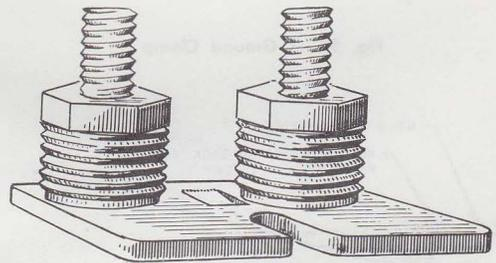
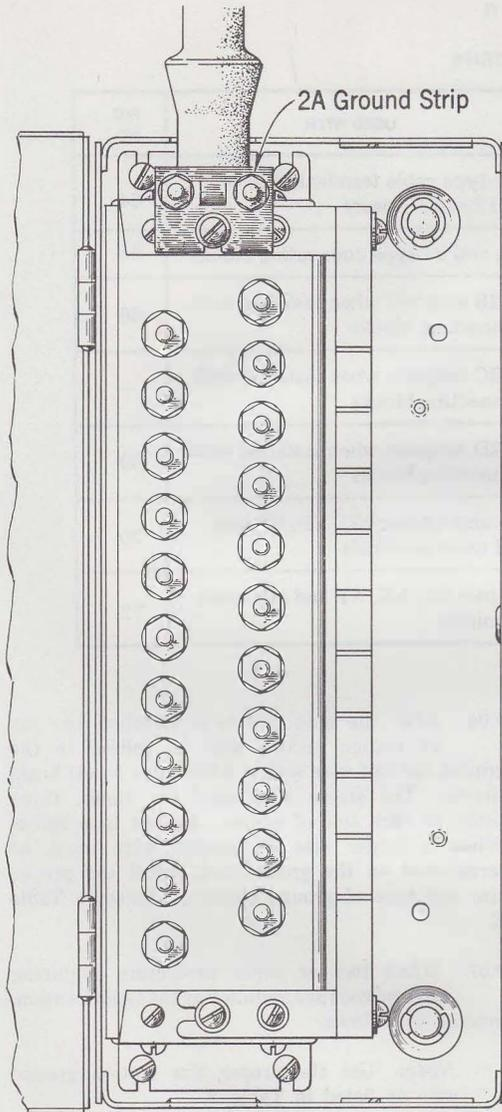

Fig. 64—2A Ground Strip
Fig. 65—2A Ground Strip Installed in GA-Type Cable Terminal
7.03 The 2A ground strip (Fig. 64) consists of a brass plate with two binding posts. The plate has a "U"-shaped slot for a mounting screw and a depressed tab which prevents the ground strip from turning after it is installed. The 2A ground strip has a capacity of 14 wires. Fig. 65 illustrates the 2A ground strip installed in a GA-type cable terminal. The 2A ground strip can also be installed on the backboard of a PC6 or PC12 cable closure.